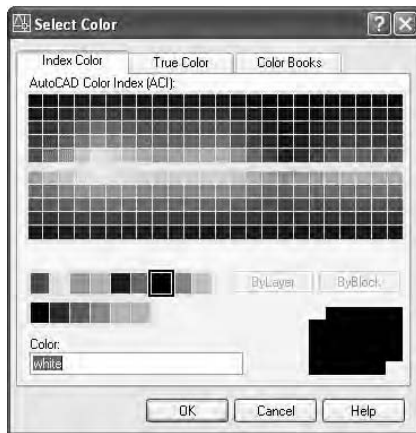

FIGURE 6.5: The Index Color tab in the Select Color dialog box
3. Click the word *White* in the Color column for the Walls row to open the Select Color dialog box (see Figure 6.5). Notice the three tabs at the top—Index Color, True Color, and Color Books. Be sure the Index Color tab is selected and on top. There are three sets of color swatches and two buttons for making color choices. In the row of 9 color swatches, below the large group of 240 choices, click the cyan (turquoise) square. In the Color text box, white changes to cyan, and one of the rectangles in the lower-right corner takes on the color cyan.